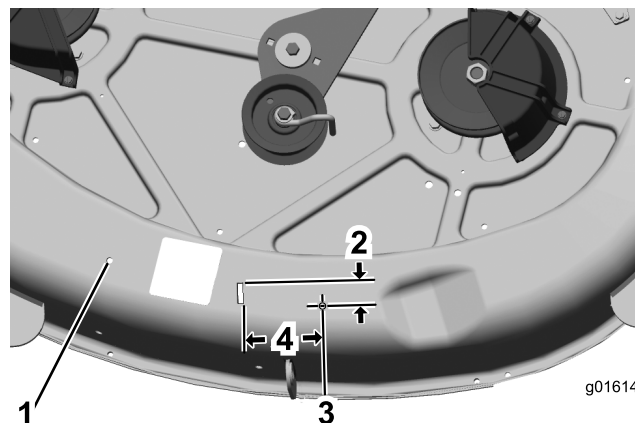

Figure 3
3. Drill another hole for the left deck belt guard in the mowing deck as shown in Figure 3.